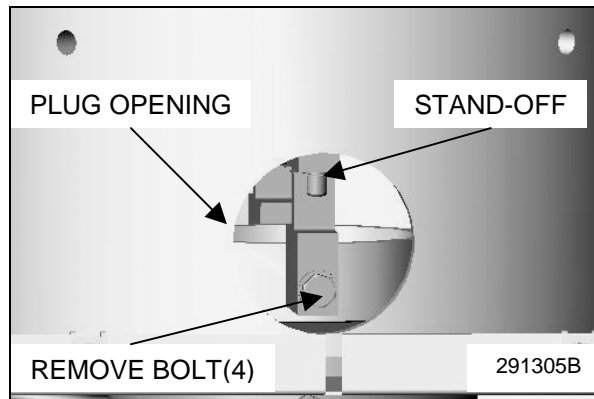

Figure 4-7. Collector Housing Opening
6. Manually rotate the siren and remove each of the four bolts that hold in the collector rings (see Figure 4-7). Access to these bolts can be gained through the plug opening.